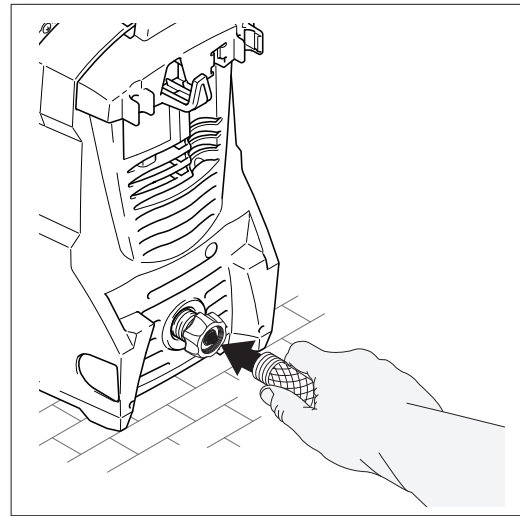

Fig. 13
- Install the garden hose into aluminum garden hose adapter (GHA) located on the back of the machine. **NOTE: Purge air from hose by running it for a few minutes until steady stream is achieved.** Attach the garden hose adapter to the end of the garden hose (**Fig. 13**)